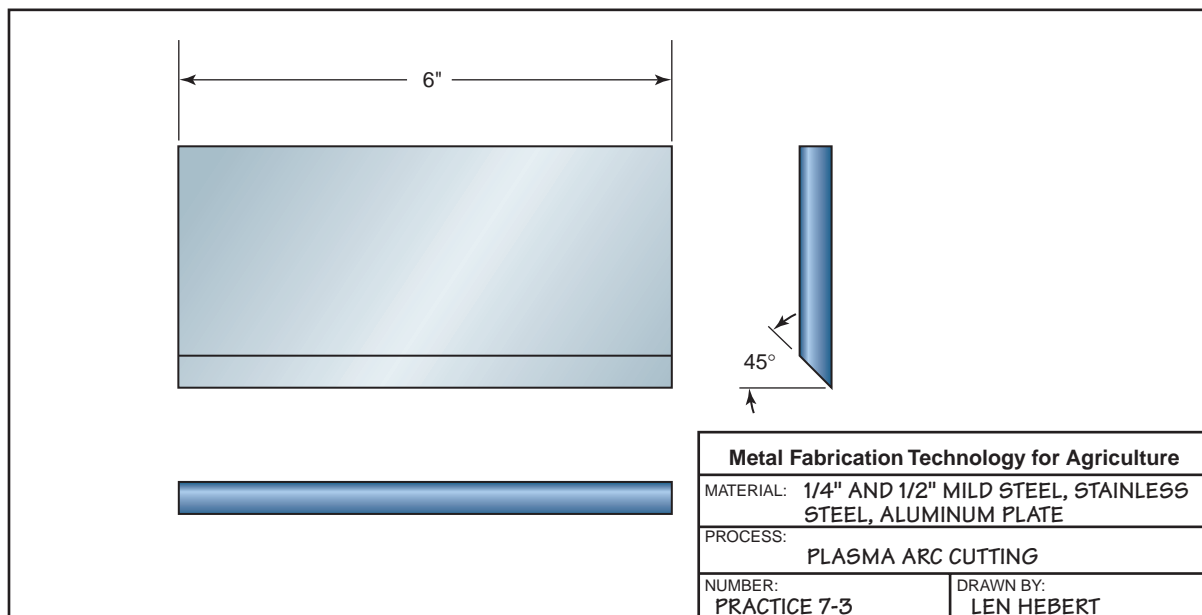

FIGURE 7-31 Beveled plasma arc cutting.
- Move the torch at a constant speed until you reach the end of the cut. Slow down so that the cut can be completed all the way to the end of the bevel, **Figure 7-31**.